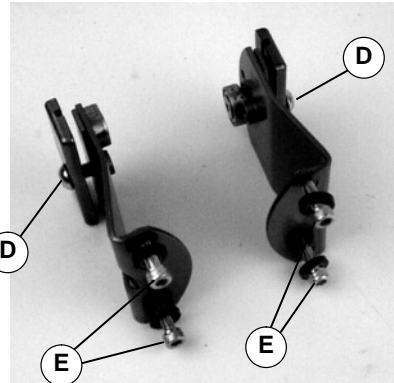

Figure 6
1. Typical Components (Figure 6)